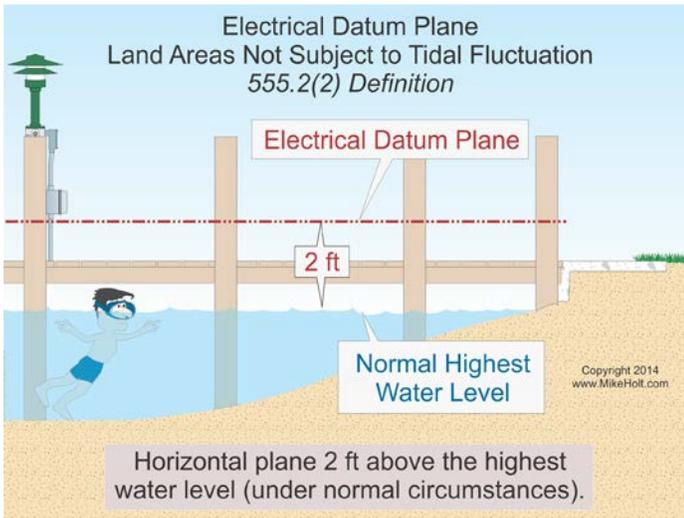

Figure 555-3
(2) Land Areas Not Subject to Tidal Fluctuation. The horizontal plane 2 ft above the highest water level that occurs under normal circumstances. Figure 555-3